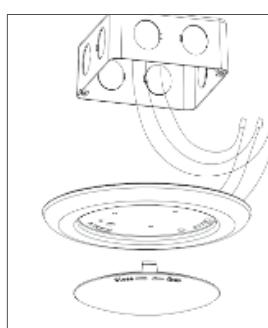

FIGURE 4
C) Remove lens by twisting counter clockwise  (Figure 4)
D) Use the included wire nuts (or quick connectors) to make electrical connections. Connect fixture black wire to supply black wire, connect fixture white wire to supply white neutral wire, connect the ground wire (attached to the fixture) to the ground wire in the junction box. (Figure 4)